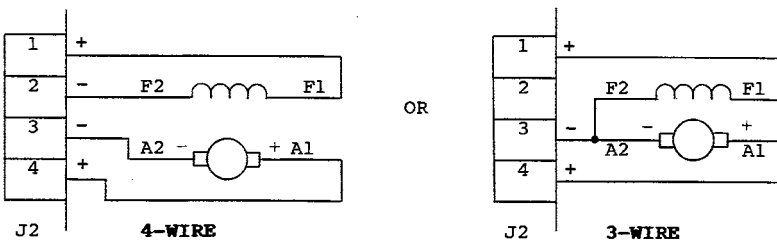

Figure 3-10: Motor Connections
Connect the field leads to J2 pins 1 and 2. Permanent magnet (PM) motors do not require field connections. Figure 3-10 below illustrates the motor connections.